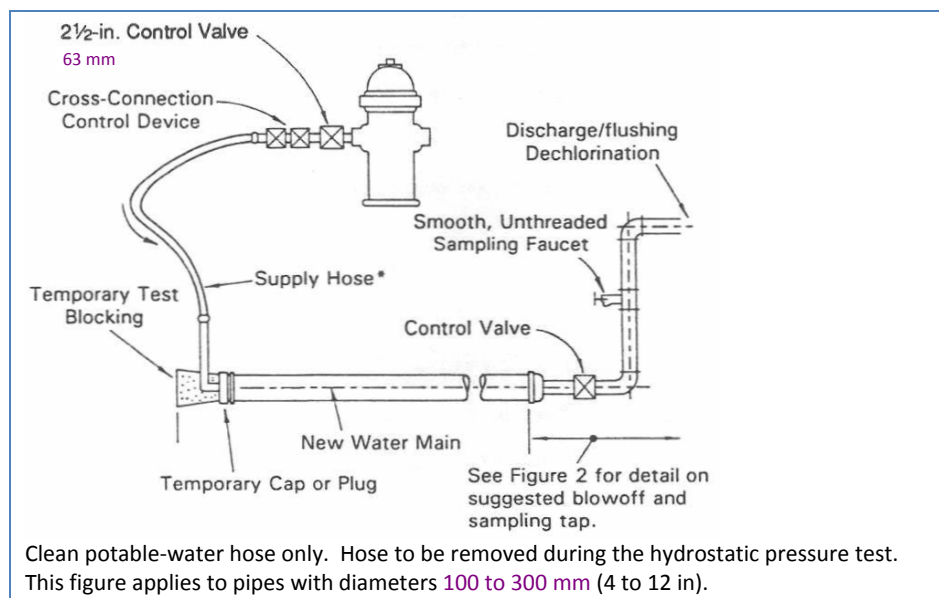

Figure 1. Suggested temporary flushing/testing connection
- As standard procedure, the new watermain should be kept isolated from the active distribution system using a physical separation (see **Figure 1**) until satisfactory bacteriological testing has been completed and the disinfectant water flushed out.